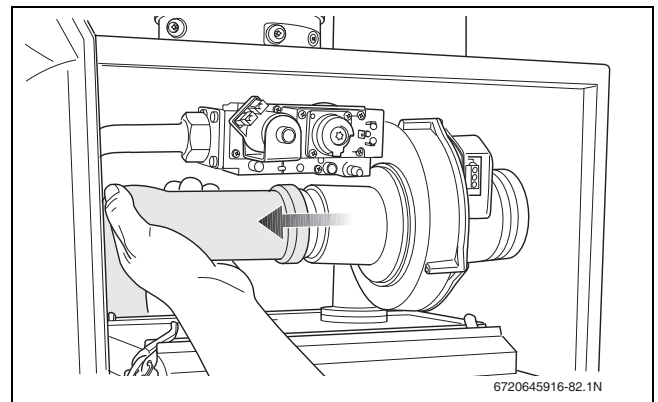

Fig. 84 Pulling the air suction tube from the fan
- ▶ Pull the air suction tube from the fan (→ fig. 84).